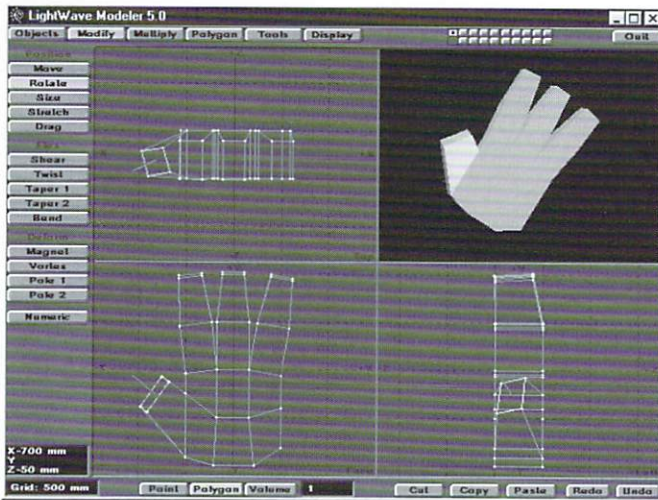

Figure 3: Extruding the thumb section.
- Now select the top of the just beveled thumb heel and bevel it again. Because we messed with the perfect geometry of our object, the last thumb bevel will probably need to be adjusted back to square before you bevel it again to make the next knuckle (Figure 3).